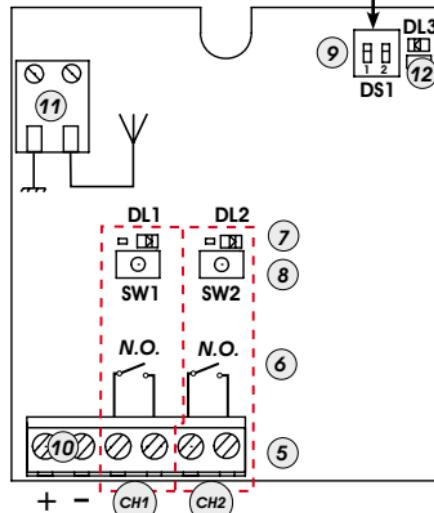

Fig.1
- 2) Press for 1 second the push-button on the receiver (Fig.1 ref.(8)) relating to the channel you wish to associate with the radio control.